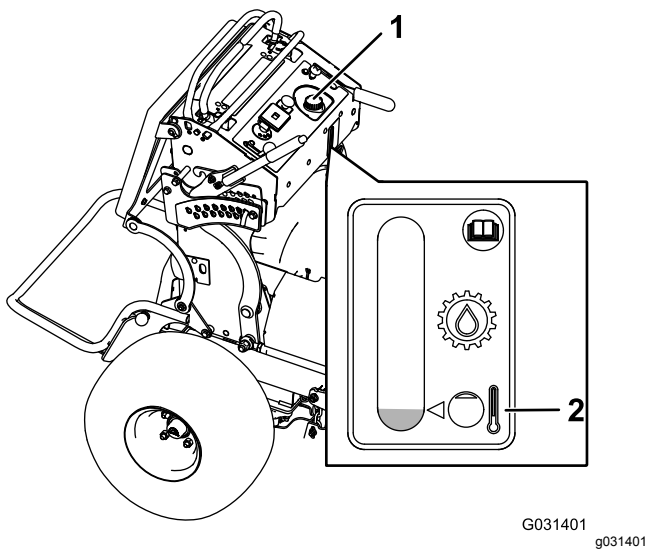

Figure 70
3. Clean the area around the cap and the filler neck of the hydraulic tank (Figure 70).
4. Remove the cap from the filler neck (Figure 70).